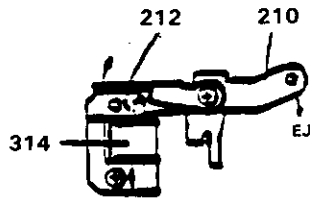

FIGURE 3-12. SELECT ARM
Then the Mode Gear (260) is unlocked and turns until the Stopper Groove of the Mode Gear is positioned at the Select Arm Pin (210). When the Program Solenoid (314) is de-energized, the Chip Arm (212) lifts up, the Select Arm (210) moves to lock the Mode Gear (260), and the Eject Gear (221) is unlocked, (see Figure 3-12).